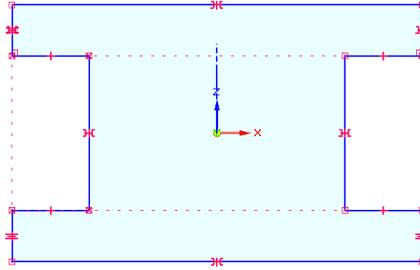

Figure 3-36 Profile after adding relationships
- Add relationships and dimensions to the outer loop, refer to Figure 3-36 and Figure 3-37.
13. Press the ESC key to exit the current tool. The sketch after adding all relationships is shown in Figure 3-36. Notice that all the relationships handles are displayed on the sketch.